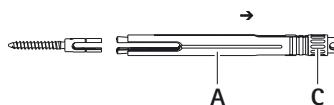

Fig. 7
- Completely remove clamping sleeve **2**, see Fig. 7.